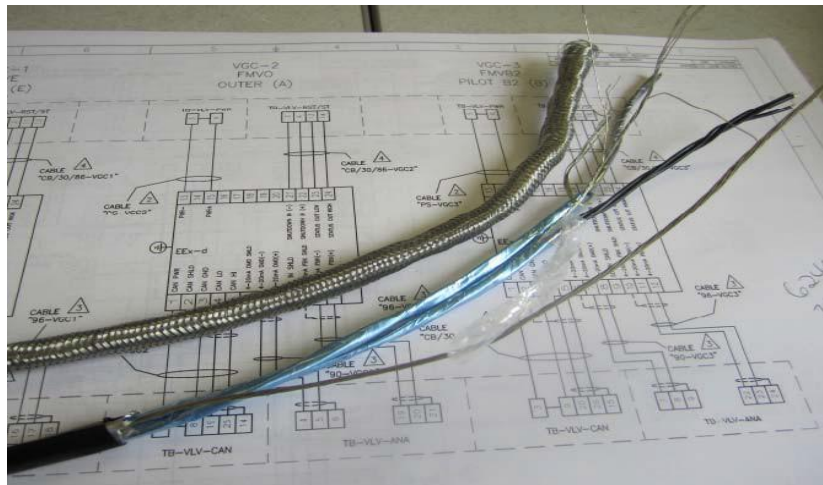

Figure 3-4. GS40 Cable Prep
4. Strip back the black sheath 45 cm (18 inches) on the valve side and 90 cm (3 feet) on the junction box side. Carefully remove all foil and plastic wrap from all internal wires (refer to Figure 3-4 below).